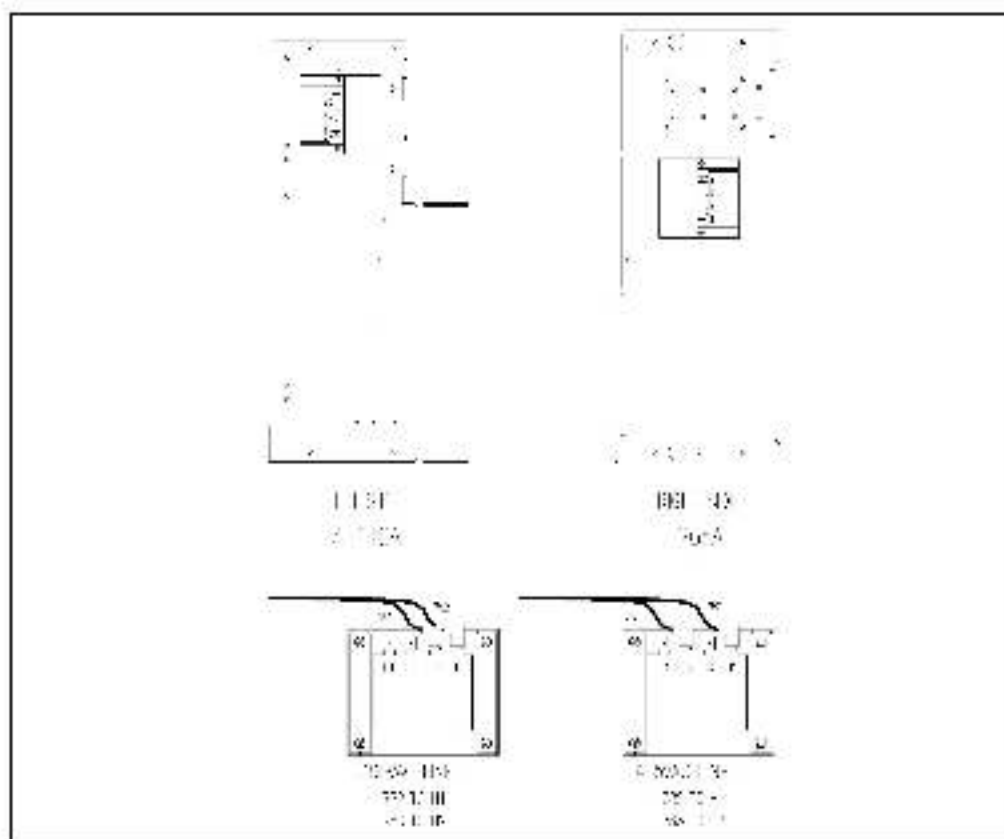

Figure 3-1 Control transformer Locations and Settings (230/460 VAC Drives)
- Step 2. Move wire 783 to terminal H2. See figures 3.1 and 3.2 for terminal locations.